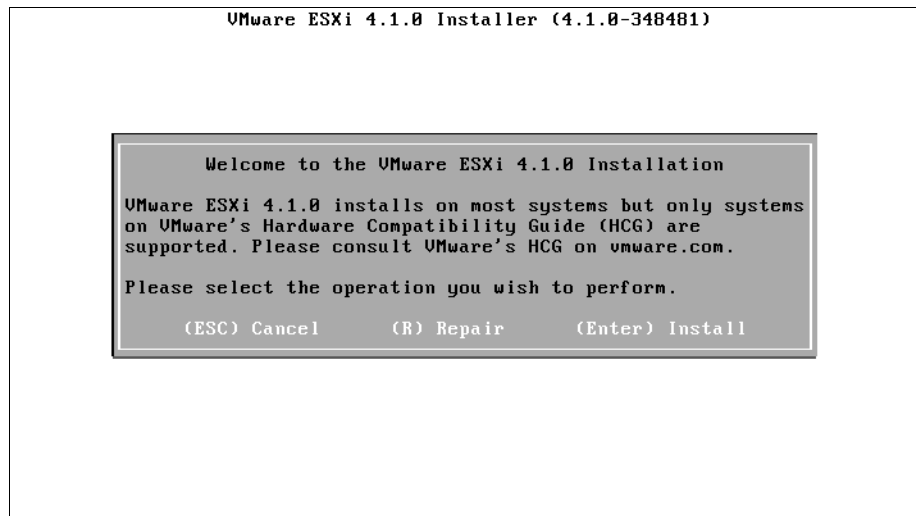

Figure 3-87 Welcome Installation page
8. After loading the basic drivers and kernel, press the Enter key to proceed with the installation as shown in Figure 3-87.